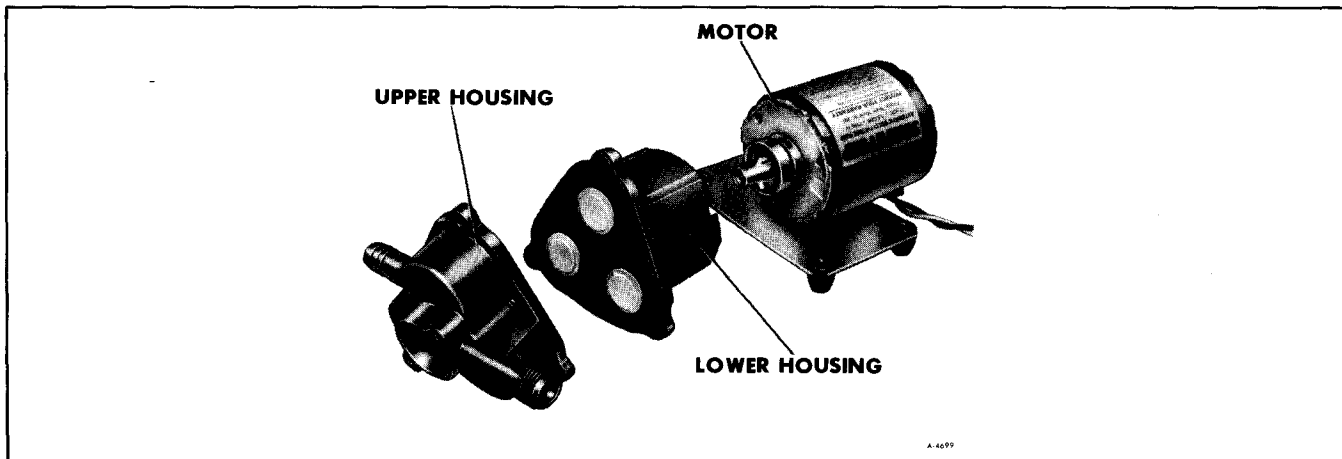

Figure 28—Upper and Lower Housings Separated from Motor
4. Remove three long screws and three short screws with nuts securing upper housing to lower housing, and lower housing to motor. Separate motor from housings and upper and lower housing from each other (figure 28).